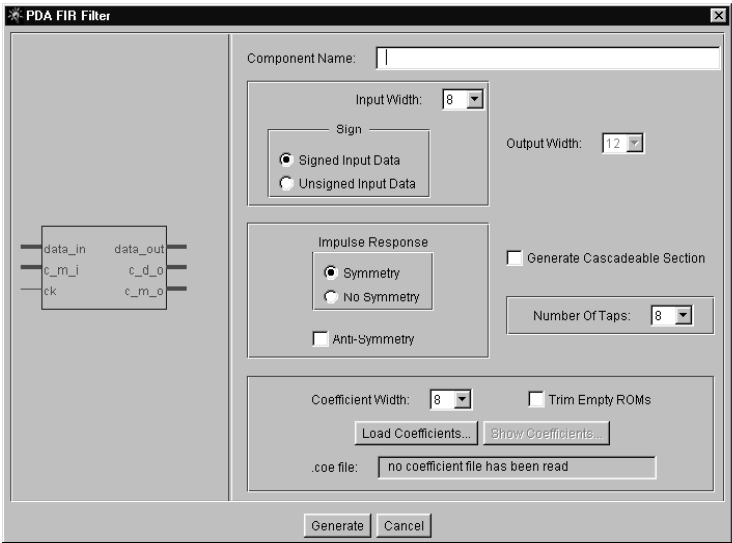

Figure 5: Parameterization Window
The CORE Generator parameterization window for this macro is shown in Figure 5. The parameters are as follows:
- **Anti-Symmetry:** Valid only for symmetric filters. When checked, the reflected half of the impulse response is negated. See Figure 5.